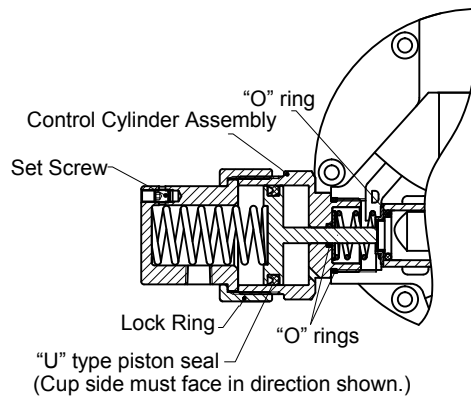

Figure 20 -Section View Showing Assembly of Control Cylinder on Control Head (Pendant Throttle Control Models)
3. Take out control cylinder assemblies from each side of control head housing (Figure 20). Then remove valve springs, spring guides and "O" ring seals from valve bore at each side of housing.
3. Use new "U" type seals on piston heads and "O" ring seals on piston stems at reassembly of control cylinder (pendant throttle control models). Ensure "U" type seals face direction illustrated in Figure 20.